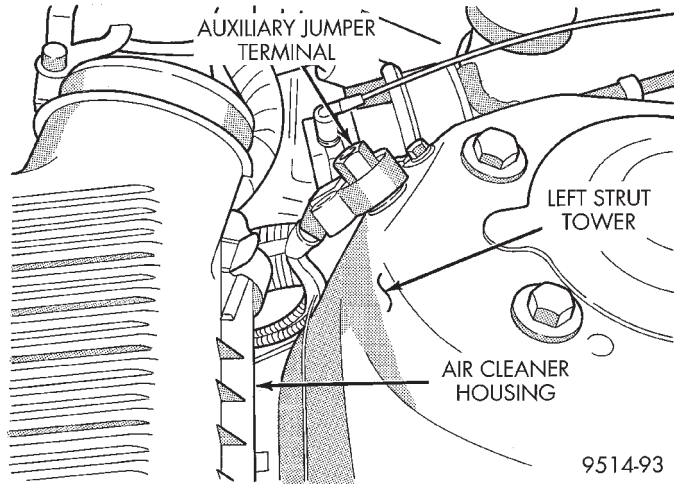

Fig. 18 Battery Cable
(1) Release fuel pressure, Refer to Fuel System Pressure Release Procedure in the Fuel Delivery section.
(2) Disconnect battery cable (Fig. 18).